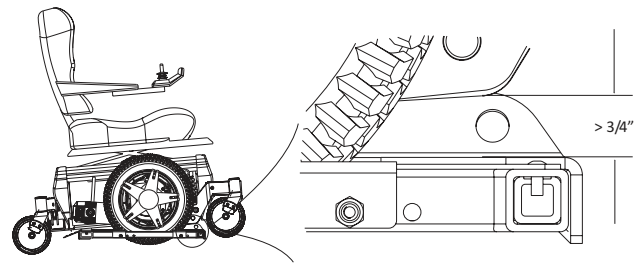

Figure 6-20
- If the chair is leaning to far too the driver's side of the vehicle, move the passenger side wheel chock away to create a bigger opening. See Figure 6-20.